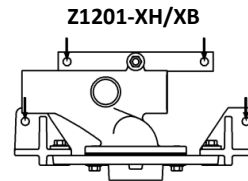

Figure 7b
- For Z1201-XH/XB, see **Figure 7b**.